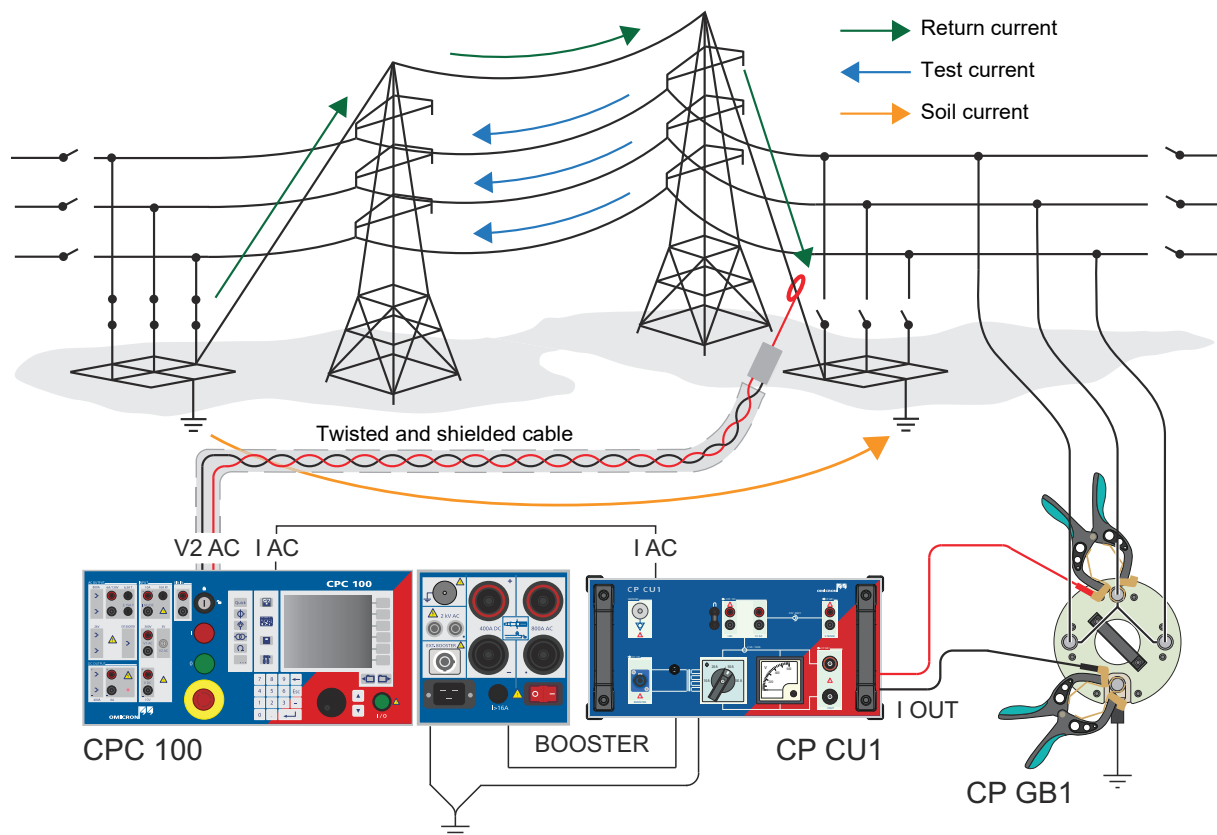
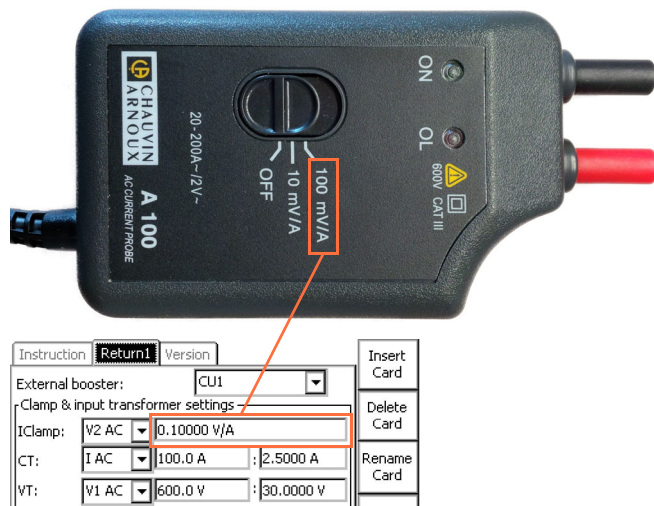

Figure 5-28: Reduction factor measurement setup
Figure 5-32: Setting for the Rogowski coil
2. If criterion 3 is met, establish the measurement setup as shown in Figure 5-28 below.
Figure 5-32 above shows the range selector of a Rogowski coil and the corresponding settings in the sequencer test card.
The selected input for **IClamp** is **V2 AC**, since the Rogowski coil is connected to this input, as can be seen in Figure 5-28: "Reduction factor measurement setup" on page 69. The ratio in the test card settings must be selected according to the range of the Rogowski coil as marked in Figure 5-32.